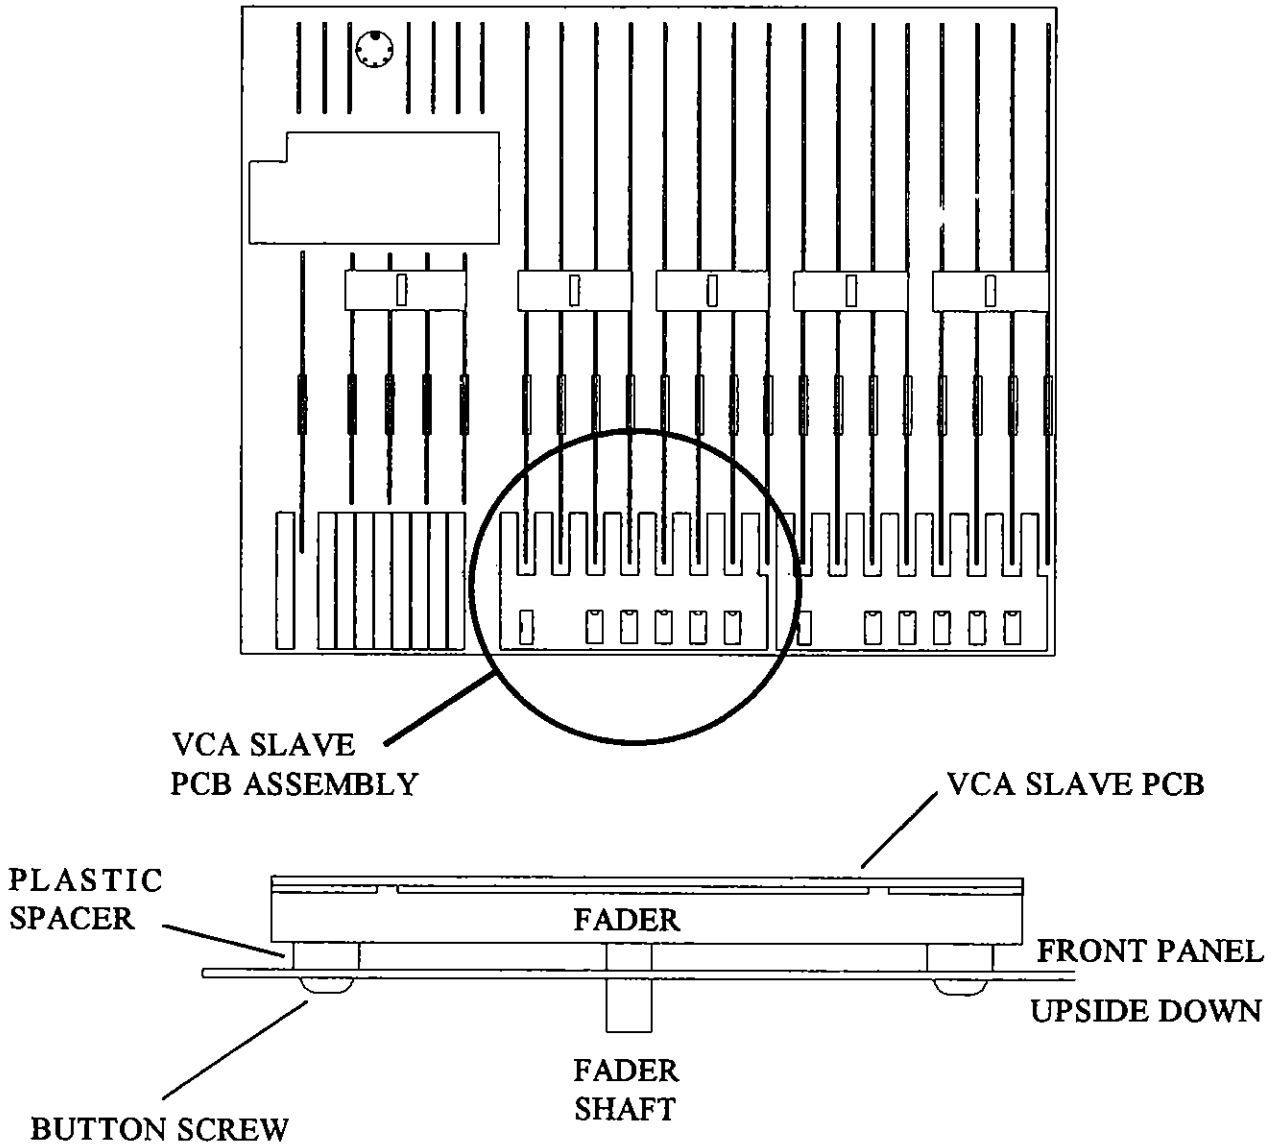

Fig. 8.
2. Unpack the VCA Slave PCBs (PCB No: AG0314) from the kit. Mount the VCA Slave PCBs onto the front panel with the fader mounting holes aligned with the screws and spacers see *Fig. 8*. There is one VCA Slave PCB for every 8 Input Channels. Screw the PCBs into place using the 16 button head screws.